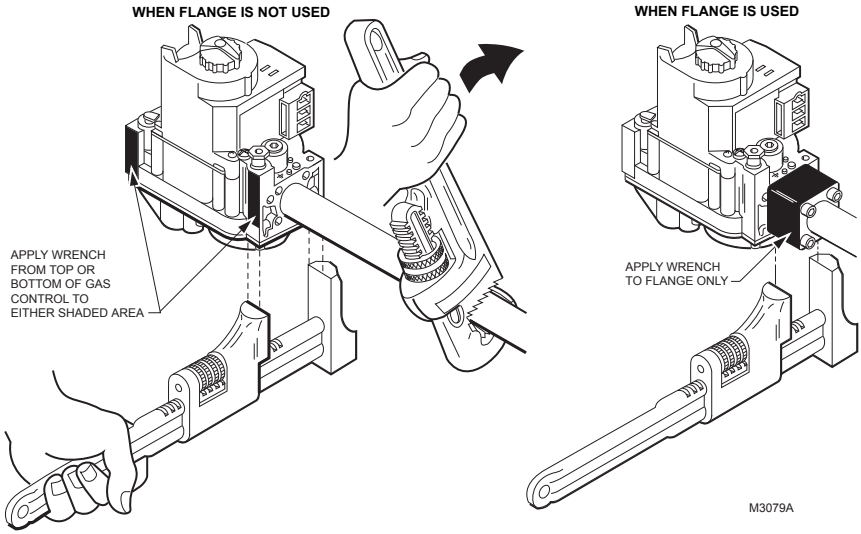

Fig. 5. Proper use of wrench on gas control with and without flanges.
6. Connect the pipe to the control inlet and outlet. Use a wrench on the square ends of the control. If a flange is used, place the wrench on the flange rather than on the gas control. Refer to Fig. 5 and 6.